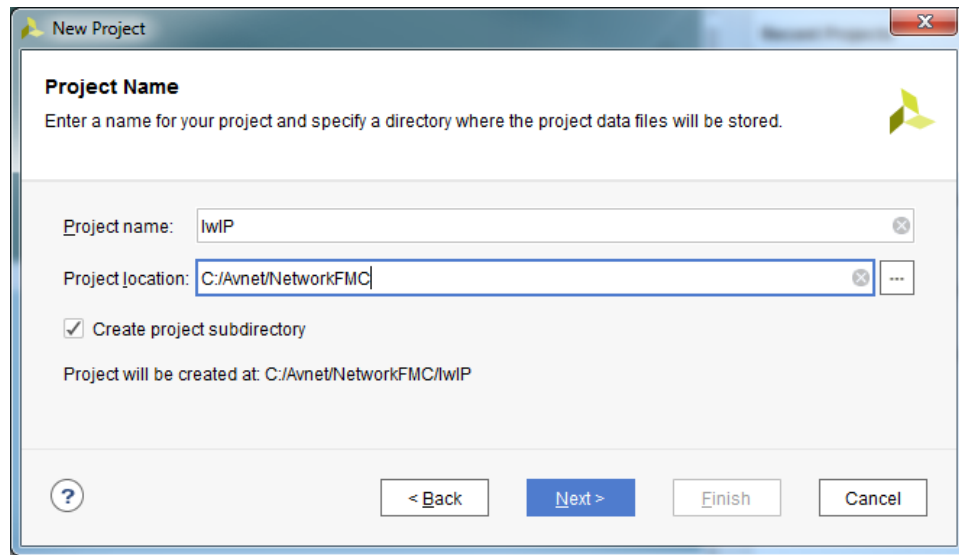

Figure 2 -- Project Name
4. Select Next and then enter the Project name and location below as seen in Figure 2.